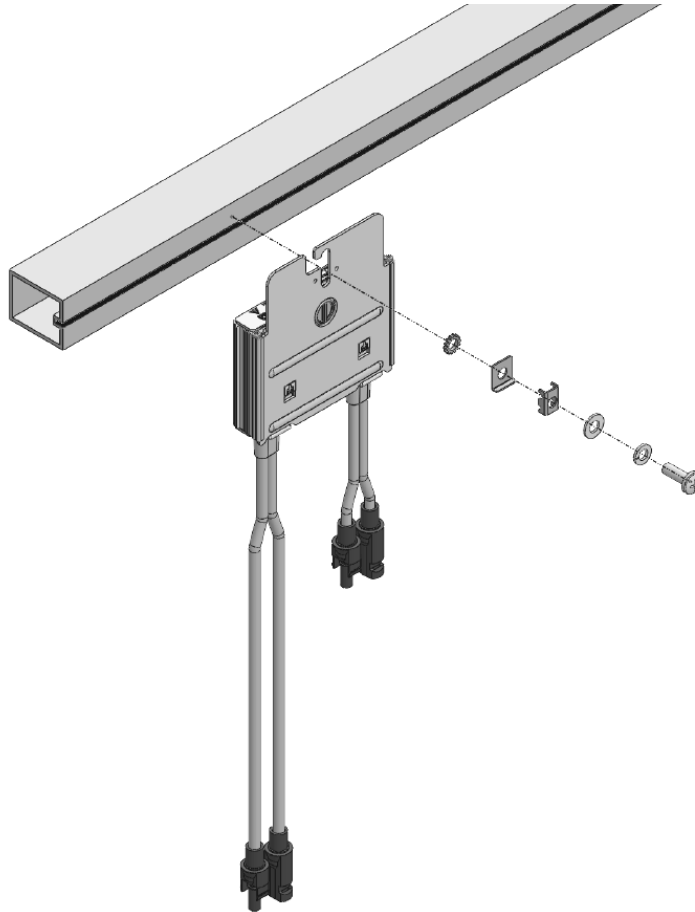

Figure 1: Grounding a power optimizer using the grounding terminal kit
- 1 When installing the power optimizer, attach a grounding terminal to each power optimizer (see Figure 1).